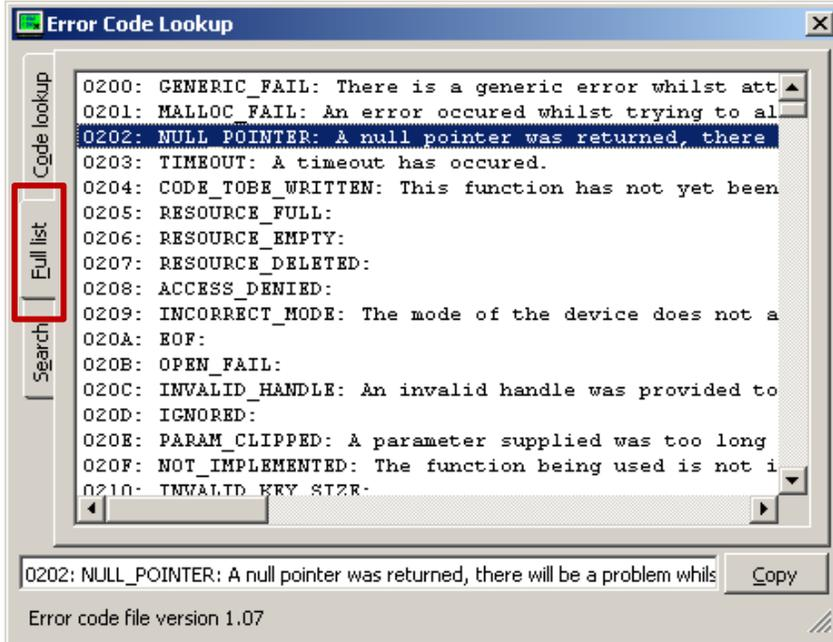

Figure 6: Full list of error codes
- **Full List** – Select the applicable error code from the full list of errors (Figure 6).